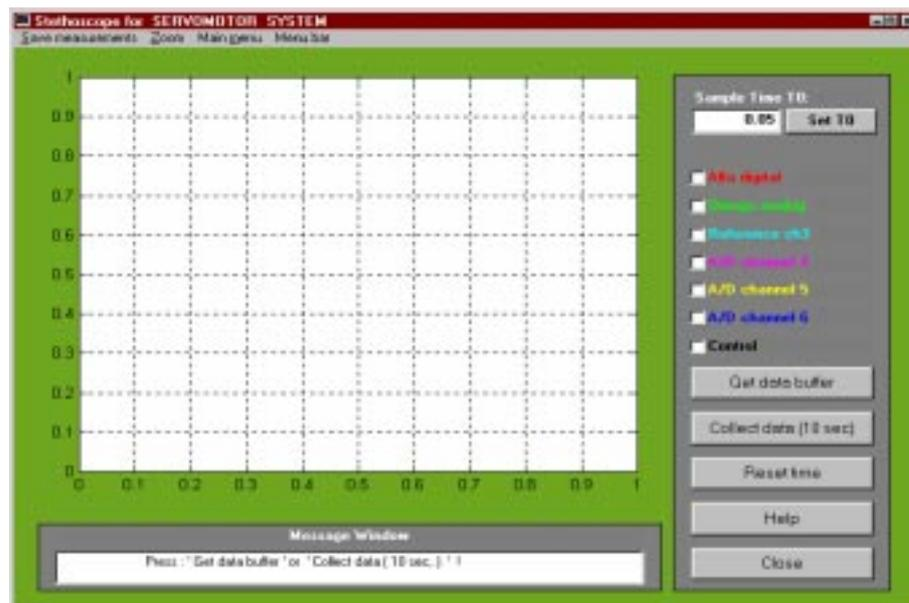

Figure 4-1: *Stethoscope* window
- 3) *Stethoscope* - opens the oscilloscope-like (with 7 channels), window for the system (Figure 4-1)